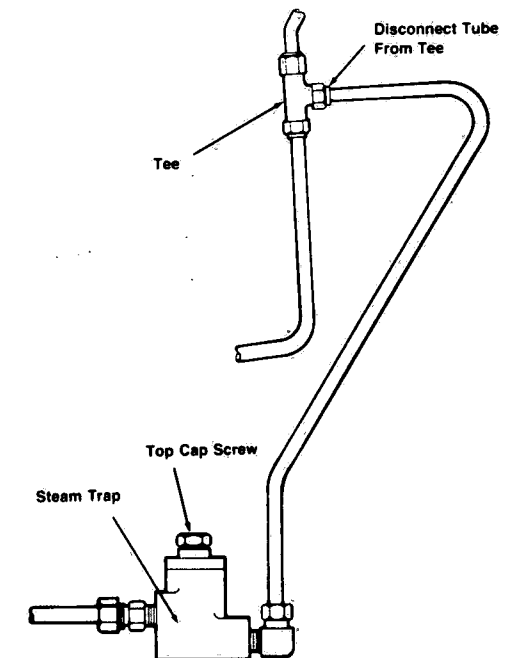

Figure 6-8. ADJUSTING STEAM TRAP.
2. Identify tube connecting steam trap to tee (Fig. 6-8).
9. Remove top cap screw (Fig. 6-8) from steam trap and turn bellows screw to open trap.